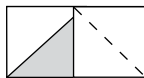
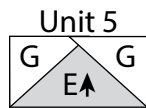

Fig. 8
Fig. 9
5. Place another $3\frac{1}{2}$ " Fabric G square on the right side of the $3\frac{1}{2}$ " x $6\frac{1}{2}$ " Fabric E strip, right sides together (Fig. 8). Sew across the diagonal of the square from the upper left corner to the lower right corner (Fig. 8). Flip open the triangle formed and press. Trim away the excess fabric from behind the triangle, leaving a $\frac{1}{4}$ " seam allowance to make (1) Unit 5 strip (Fig. 9).